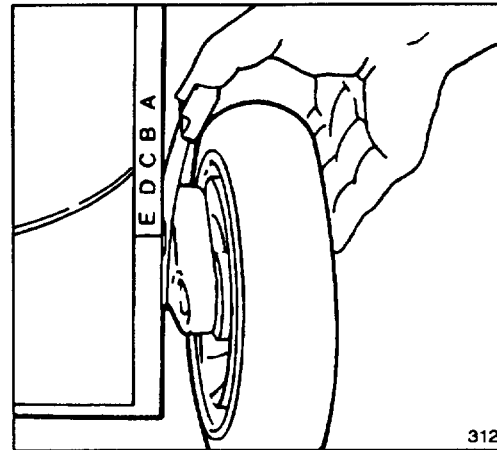

Figure 11
Five letters cast into the housing represent each graduated increment (Fig. 11).
2. For easier adjustment, lift housing up so wheel is off ground. **Do not put fingers under housing when lifting.** Squeeze adjusting lever toward wheel and move to desired setting (Fig. 11). Assure pin on adjusting lever engages slot in housing. Adjust all wheels to the same setting.